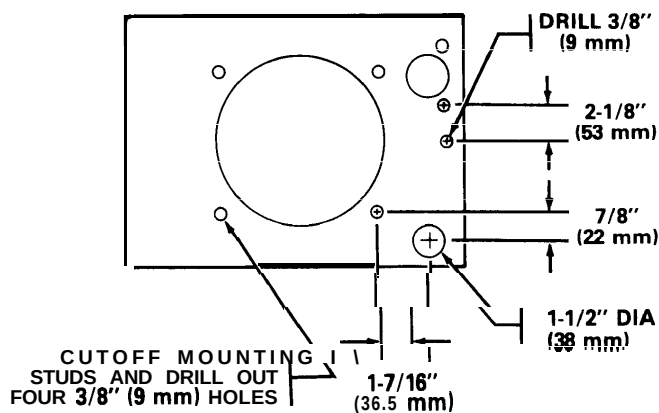

Fig 3
2. Cut off the four weld studs on the wall bracket. Drill four 3/8 in. (9 mm) diameter holes where the studs were. Drill another 3/8 in. (9 mm) diameter hole in the right side of the bracket. Punch or cut out a 1-1/2 in. (38 mm) diameter hole on the lower right corner of the bracket. Refer to Fig 3 for the exact location of these modifications.